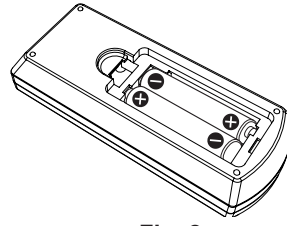

Fig. 2
- 2) **Insert batteries and close the cover (Insert the "●" side first.). (Fig. 2)**